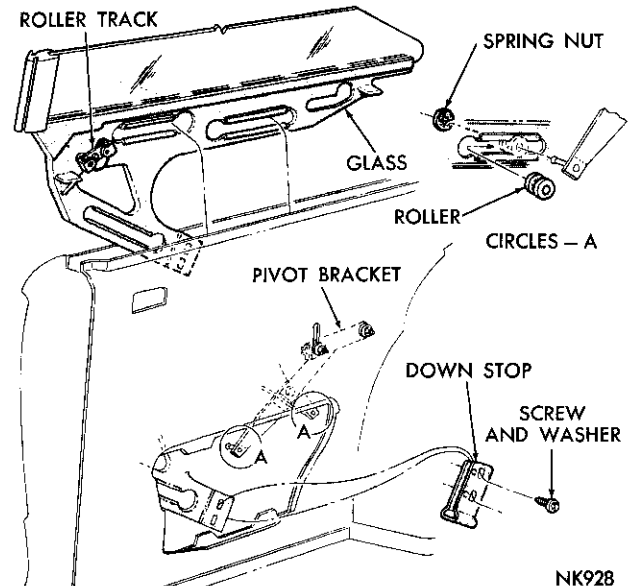

Fig. 97—Quarter Window Replacement
(1) Remove the regulator handle, trim panel and watershield.
(2) Remove the down stop assembly from the glass lower frame (Fig. 97).
(3) Remove the spring nuts from the regulator arm studs.
(4) Support the window assembly and remove the regulator studs from the roller assemblies.
(5) Remove the rollers from the regulator arm slots